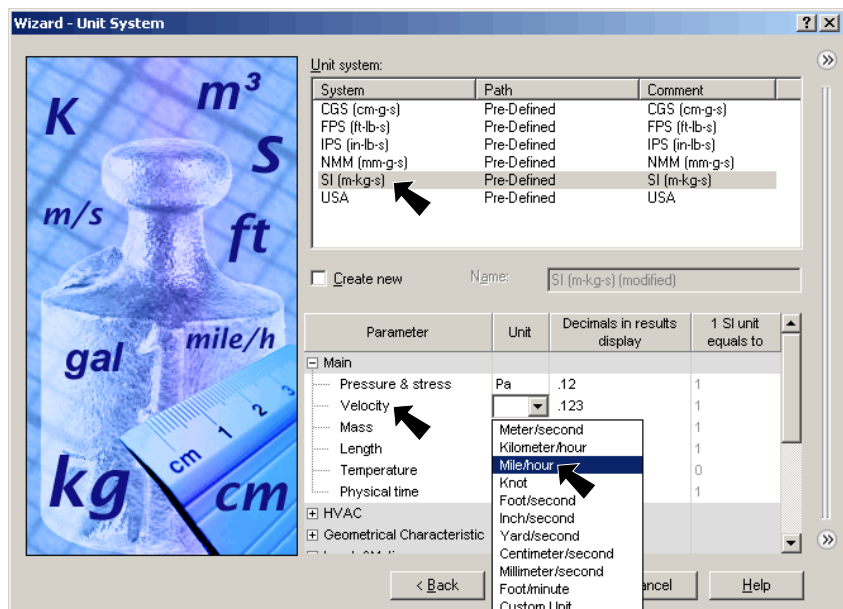

Fig. 3
- Step 5. **Unit System:** Select **SI (m-k-g-s)** for Unit system, Fig. 3.
- Step 6. Under **Parameter**, set **Velocity** units to **Mile/hour**, Fig. 3.